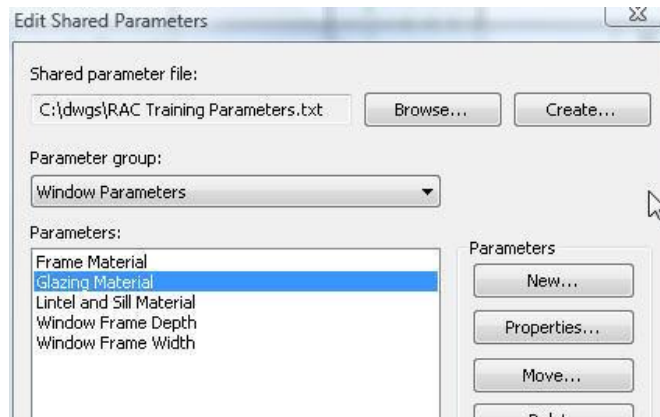

Figure 32. Creating the remaining Shared Parameters.
13. Use the same process to create the following additional parameters, which will be used a bit later so that your dialog looks like Figure 32, then click OK: